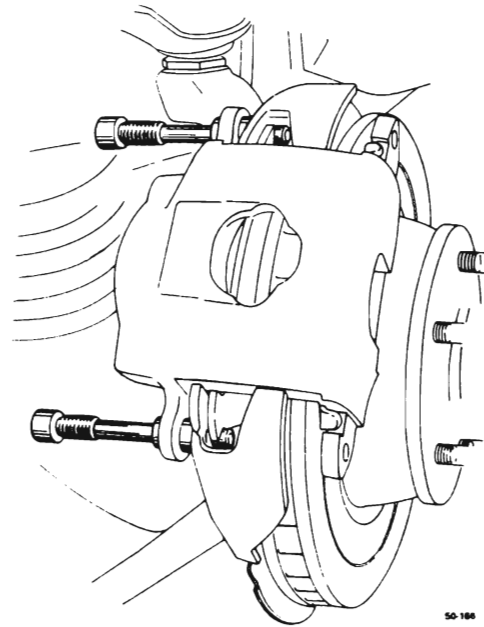

Figure 50-42--Installing Mounting Bolts
8. After clinching, remove the C clamp and position the caliper over the rotor, lining up the holes in the caliper ears with the holes in the mounting bracket. Make sure that the brake hose is not twisted or kinked. Start the bolts through the sleeves in the inboard caliper ears and through the mounting bracket, making sure that the ends of the bolts pass under the retaining ears on the inboard shoe. See Figure 50-42. Push the bolts on through to engage the holes in the outboard caliper ears, at the same time threading the bolts into the mounting bracket. Torque the bolts to 35 lb. ft.